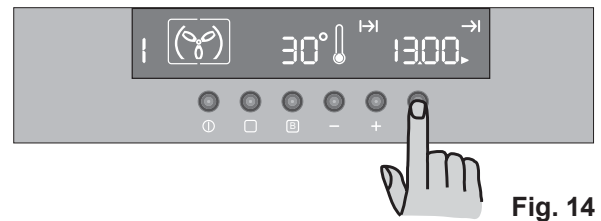

Fig. 14
- 2) Press button  until the "End of Cooking" function  is selected and the relevant symbol flashes. The control panel will display the end of cooking time (that is, the actual time + cooking duration time - Fig. 14).